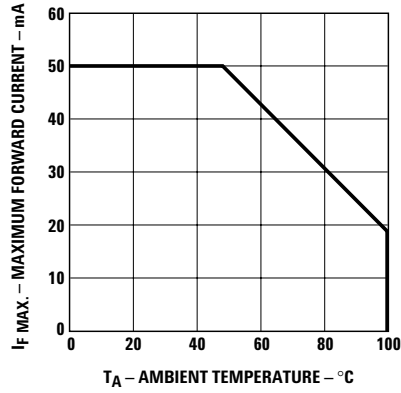

Figure 2. Forward current vs. ambient temperature.
- Derate linearly as shown in Figures 2 and 7.